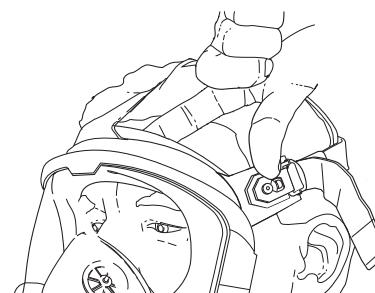

Fig. 26 Checking for gaps in face seal
– A separation of the seal from the face that can be felt with the fingers (Fig. 26).